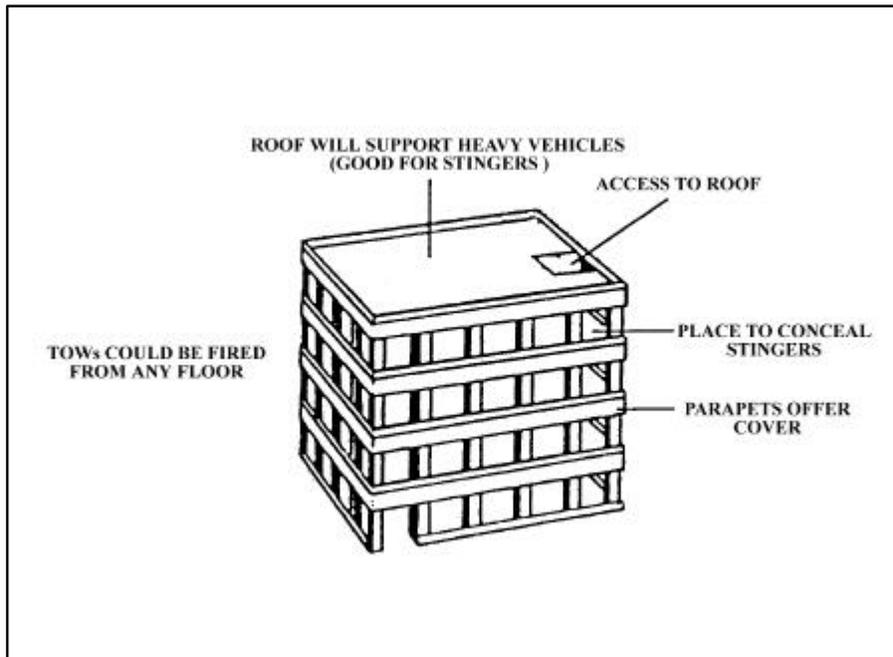

Figure I-16. Garage
c. The garage is one of the few buildings in an urban area in which all floors support vehicles. It provides a means to elevate vehicle-mounted TOWs, and the open interiors permit firing of ATGMs. Garages are normally high enough to provide a 360-degree field of fire for anti-aircraft weapons. For example, a Stinger could hide under the top floor of the garage, come out to engage an aircraft, and then take cover again (Figure I-16).